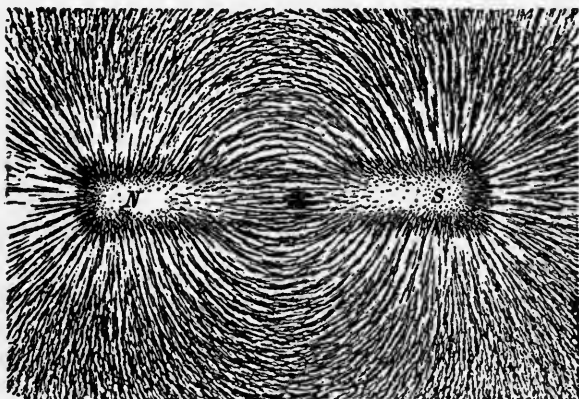
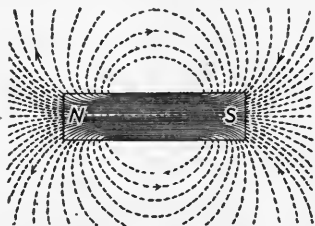

FIG. 179.—Iron filings on paper over a bar magnet.
FIG. 180.—Diagram of the field of a bar magnet.
curved lines extending from one end of the magnet to the other. These are called the *magnetic lines of force*. (See Fig. 179.) The space about a magnet in which the magnetic lines are found is called the *magnetic field*. (See Fig. 180.)
(B) Magnetic lines of force are believed to form "*closed curves*" or to be continuous. The part outside of the magnet is a continuation of the part within the magnet. (See Fig. 180.)
FIG. 181.—Magnetic field between like poles showing repulsion. The lines of force are considered to indicate by an arrow head (Fig. 180) that a north-seeking pole tends to move in that direction. The lines of force are considered to leave a north-seeking pole of a magnet and enter a south-seeking pole. (See Figs. 181 and 182.)